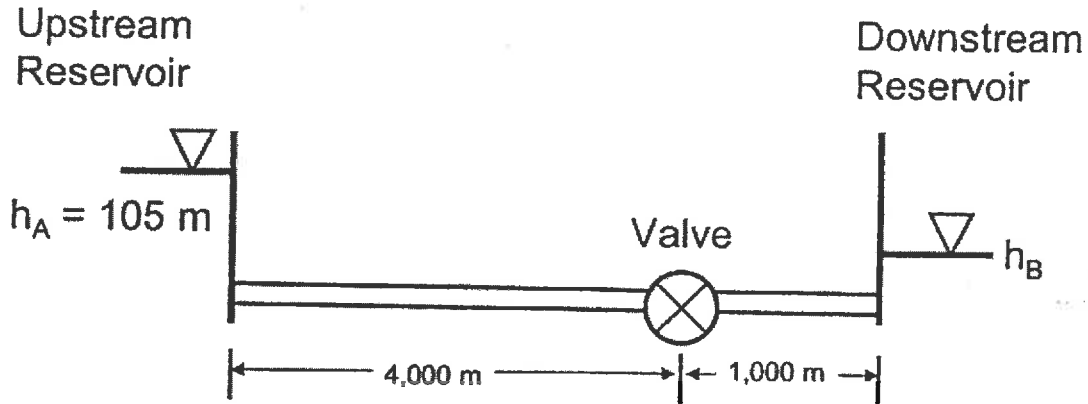

Figure 2. Schematic of water transmission system.
- /20 2. A transmission pipeline that conveys water from an upstream reservoir to a downstream reservoir is indicated below in Figure 2. The transmission main has a valve along its length that controls the discharge in the system. The discharge through the valve is computed with the valve equation below. The pipeline has a length of 5,000 m, a Hazen-Williams 'C' factor of 120, and an inner diameter of 450 mm. The upstream reservoir has a water level of 95 m. The valve discharge constant is $E_s = 0.45 \text{ m}^{5/2}/\text{s}$.